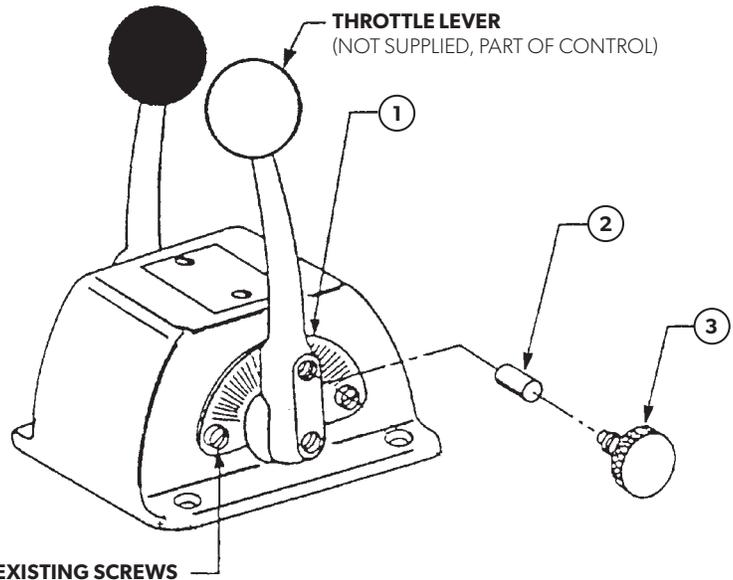

Figure 1.
3. Install the friction plate (item 1) as shown in figure 1 to the open hole, insert existing screw, and tighten.
4. Now remove the other side screw, rotate the friction plate (item 1) over the hole, re-insert the screw and tighten.
5. Install the nylon friction pin (item 2) into the top hole of the throttle lever.
6. Screw the friction adjustment knob (item 3) into the top hole of the throttle lever. Adjust as instructed previously.